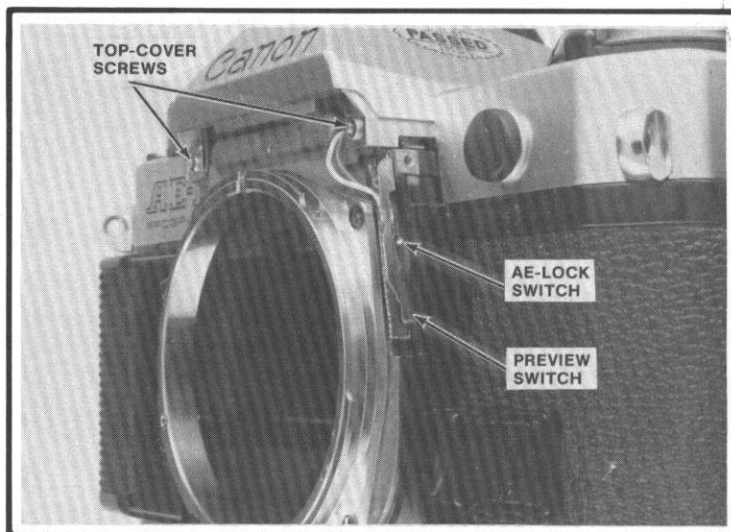

Figure 6
2. Remove the lens. Take out the 4 screws holding the front cover. Lift the wind side of the front cover first to clear the preview and AE-lock switches, Fig. 6. On reassembly, seat the rewind side of the front cover first.